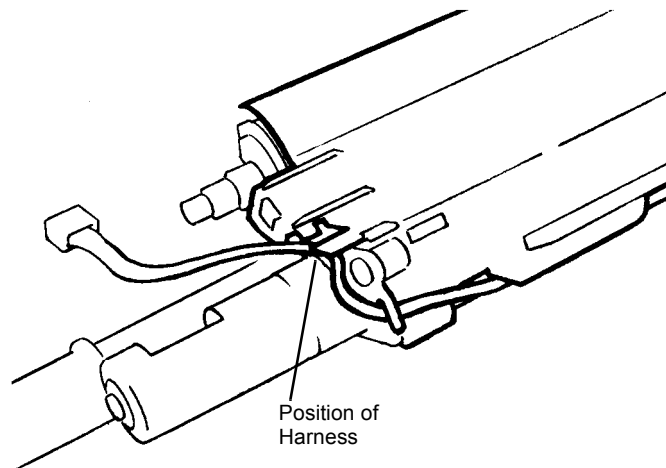

Figure 1 Observing position of Harness
12. Remove Developer. (Figure 1).